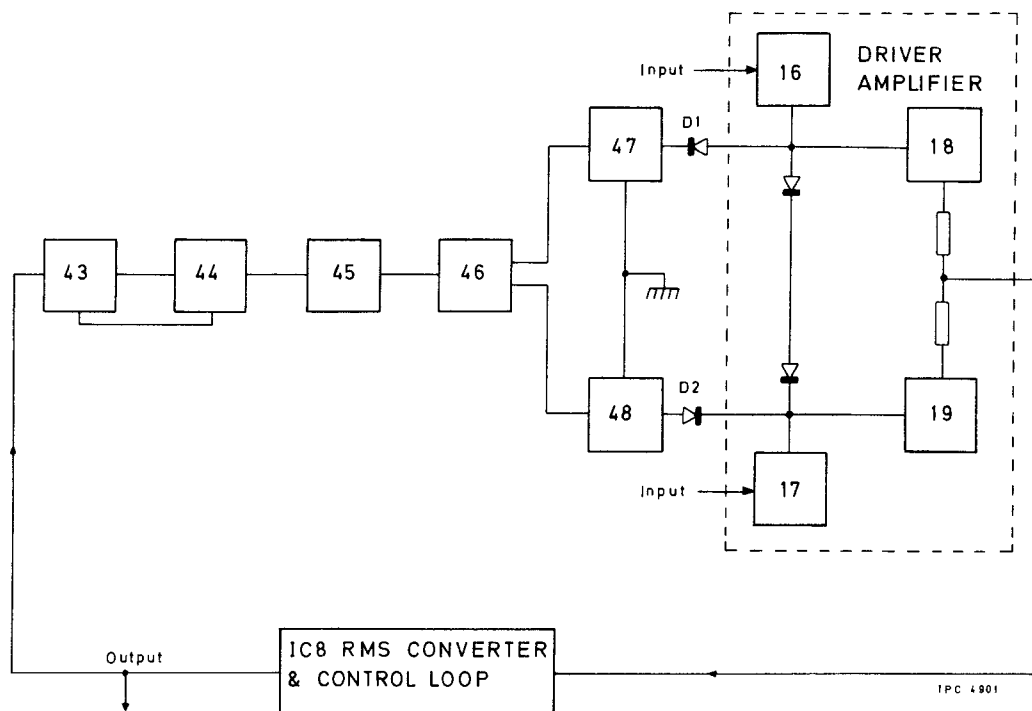

Fig. 4 RMS converter protection circuit : block diagram
32. Fig. 4 shows in block diagram form the protection circuit with converter and driver amplifier output stage.